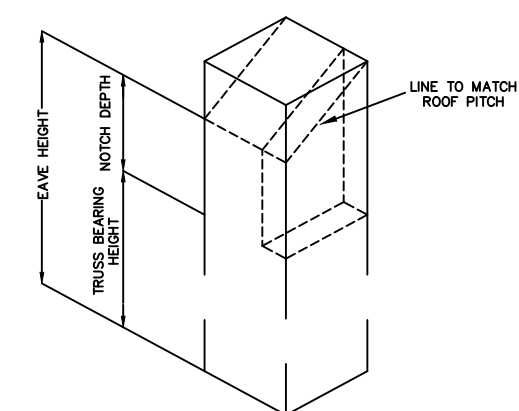

Figure 203-6
4. Locate the bottom of the notch by measuring up to the truss bearing height grade. See figure 203-6.